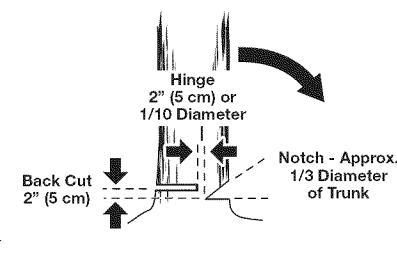
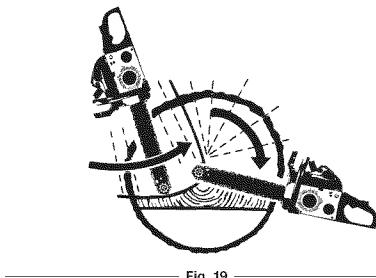
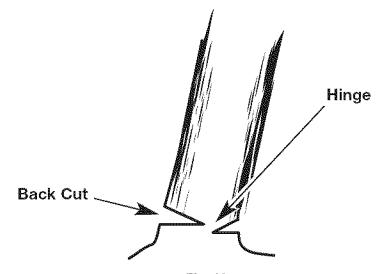
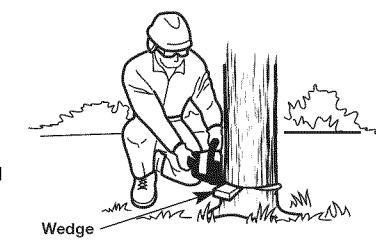

Fig. 18
Fig. 19
Fig. 20
Fig. 21
**1. Notched Undercut.** This cut determines the direction that the tree will fall. It should be made on the side of the tree facing the felling direction. Cut a notch about 1/3 the diameter of the trunk in the side of the tree. Make the notch cuts so they intersect at a right angle to the line of fall. This notch should be cleaned out to leave a straight line. To keep the weight of the wood off the saw, always make the lower cut of the notch before the upper cut. (Fig. 18)
**2. Felling Back Cut.** This cut fells the tree. Make the back cut level and horizontal, and at a minimum of 2 inches (5 cm) above the horizontal cut of the notch (Fig. 18). If the diameter of the tree is greater than the length of the guide bar, make two cuts as shown (Fig. 19). When the felling cut gets close to the hinge, the tree should begin to fall (Fig. 20). If there is any chance the tree may not fall in the desired direction or if it may rock back and bind the saw chain, stop cutting before the felling cut is complete and use wedges of wood or plastic to open the cut and drop the tree along its desired line of fall (Fig. 21).